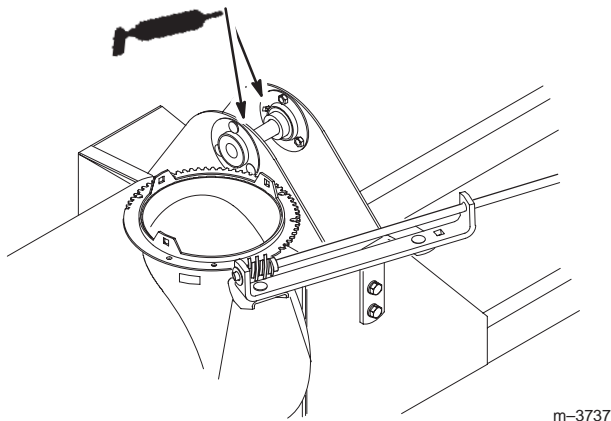
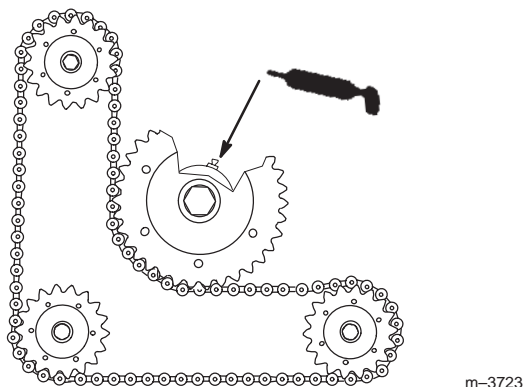

Figure 37
Figure 38
1. Lubricate the jack shaft bearings (Fig. 37) and drive bearings (Fig. 38).